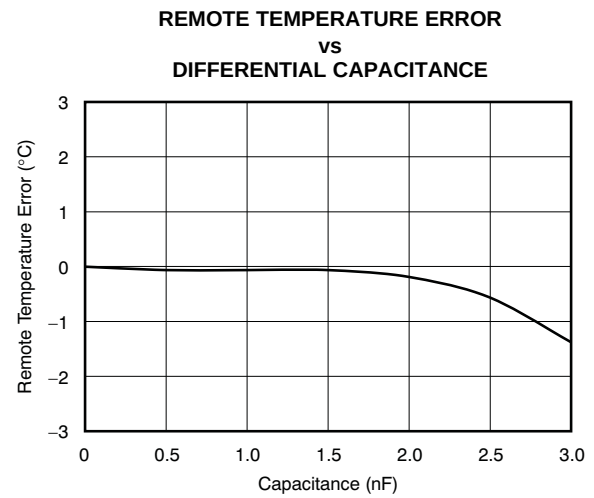

Figure 6.
(1) Diode-connected configuration provides better settling time. Transistor-connected configuration provides better series resistance cancellation.
(3)  $C_{\text{DIFF}}$  (optional) should be  $< 1000\text{pF}$  in most applications. Selection of  $C_{\text{DIFF}}$  depends on application; see the Filtering section and Figure 6, Remote Temperature Error vs Differential Capacitance.
(4) TMP422 SMBus slave address is **1001 100** when connected as shown.
The TMP422 tolerates differential input capacitance of up to 1000pF with minimal change in temperature error. The effect of capacitance on sensed remote temperature error is illustrated in Figure 6, *Remote Temperature Error vs Differential Capacitance*.